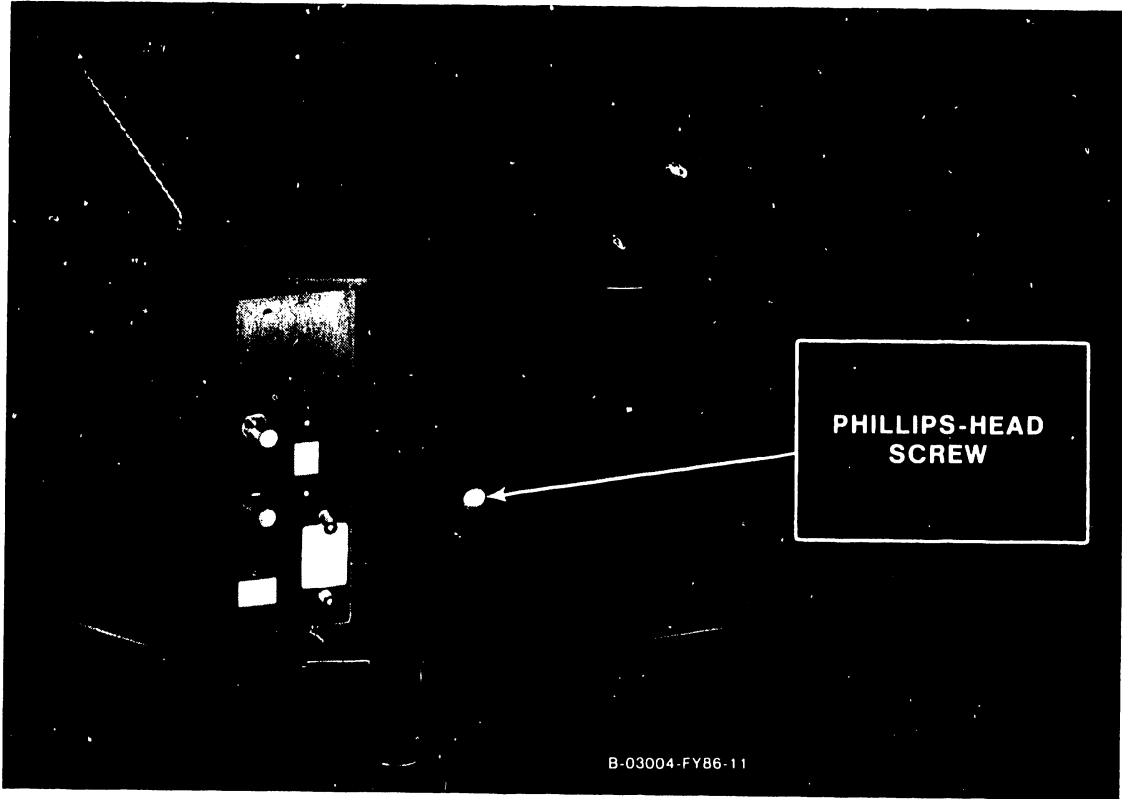

Figure 7-1. 4230A Workstation Monitor Cover Removal.
3. Position the Monitor such that the back of the Monitor cover is facing you. Rest the Monitor on a soft cloth, and using a Phillips-head screwdriver, remove one (1) Phillips-head screw from the rear center of the Monitor (figure 7-1).